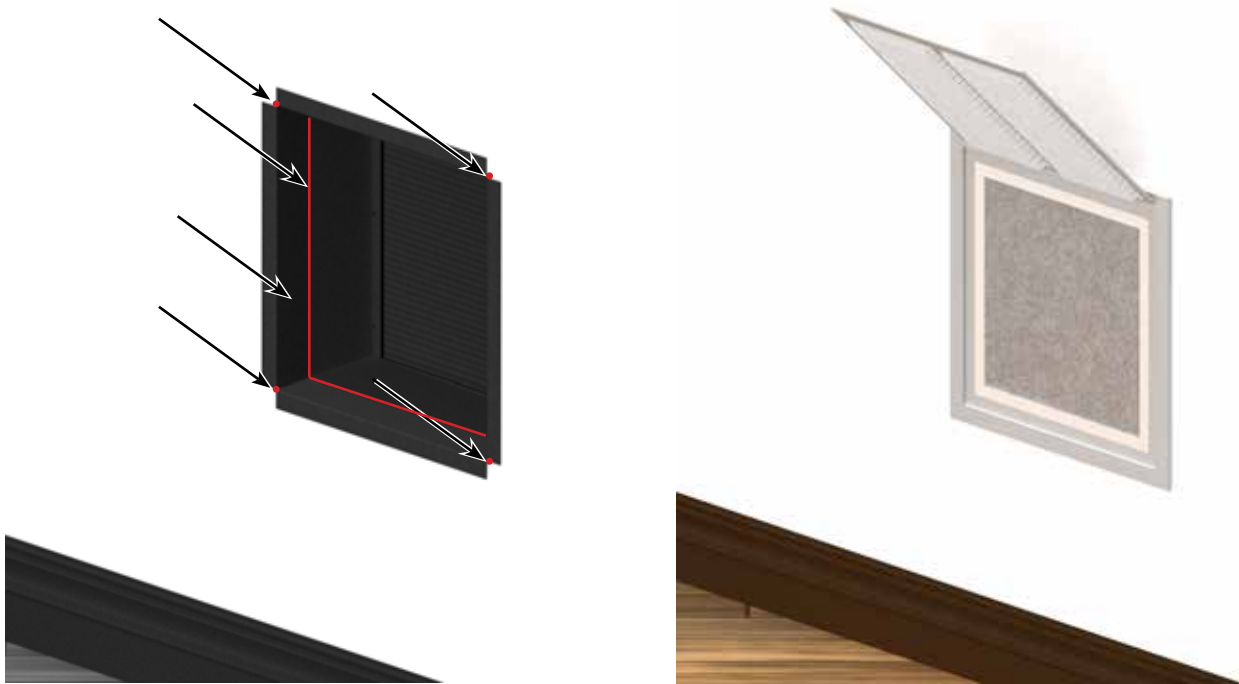

FIGURE 4
4. From outside the cellar seal all cracks and gaps where the two Intake Plenums meet on the inside of the unattached Intake Plenum with an air-tight sealant or caulking to prevent heat transfer between the cellar and the adjacent area (as shown in Figure 4).